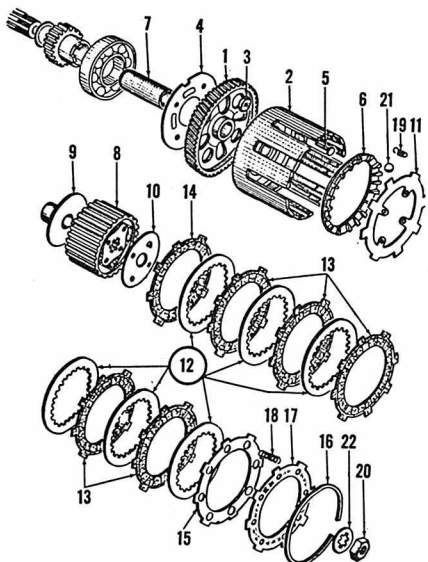

Fig. S1-20—Exploded view of M31 automatic clutch.
move nut (20—Fig. S1-20) and snap ring (16). New friction plates (13) are 3.0 MM (0.1181 in.) thick and should be replaced if less than 2.85 MM (0.1122 in.). New inner friction plate (14) is 3.7 MM (0.1457 in.) and should be replaced if less than 3.55 MM (0.1398 in.). Free length of new clutch springs (18) is 18.8 MM (0.7402 in.) and should be replaced if less than 17.8 MM (0.7008 in.). Free length of new inner plate return springs (19) is 17.1 MM (0.6832 in.) and should be replaced if more than 17.6 MM (0.6929 in.).
When reassembling, make certain inner friction plate (14) is correctly installed. Inner plate can be identified by thickness and notch cut into one of the driving lugs. Assemble in order shown in Fig. S1-20 and install on transmission shaft. Measure clearance between inner plate (11—Fig. S1-21) and inner friction plate (14) with feeler gage. If clearance is not 1.4-1.8 MM (0.05512-0.07087 in.), record the clearance and disassemble clutch. Measure thickness of steel plates (12—Fig. S20) and change the combined